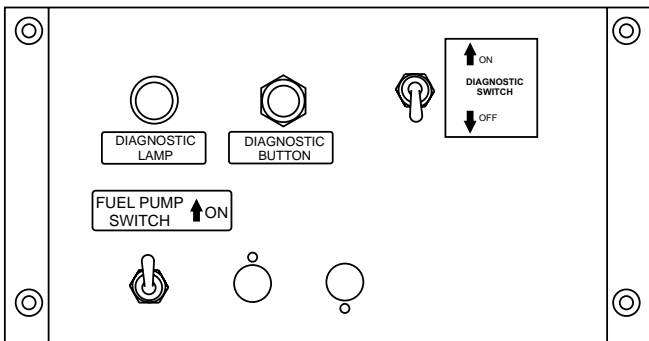

Figure 58. Diagnostic Panel
4. To start the diagnostic process, place the **diagnostic switch** to the **ON** (Figure 58) position.